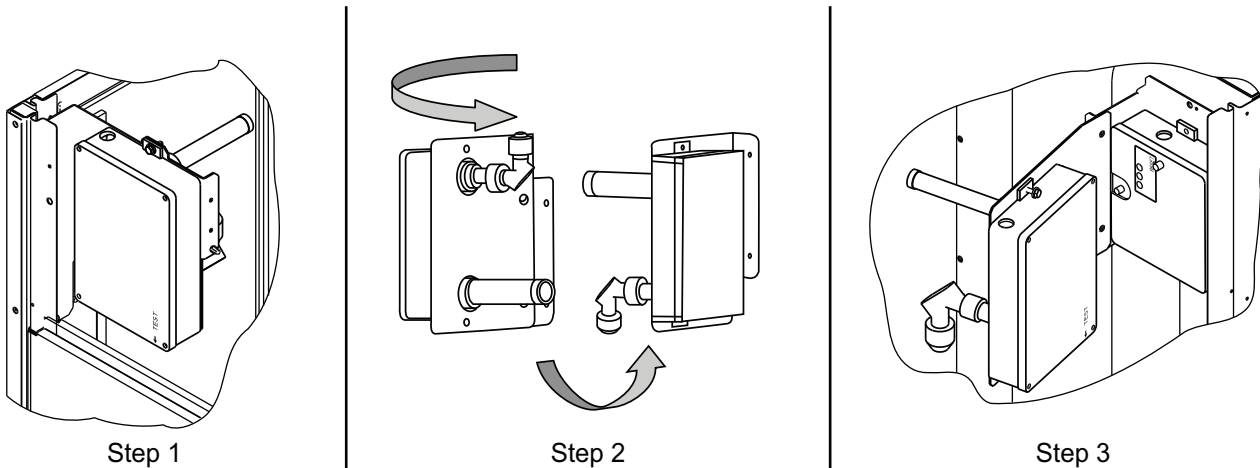

Fig. 62 — Completing Installation of Return Air Smoke Sensor
1. Unscrew the two screws holding the return-air smoke detector assembly. See Fig. 62, Step 1.
3. Turn the assembly 90 degrees and then rotate end to end. Make sure that the elbow fitting is pointing down. See Fig. 62, Step 2.
4. Screw the sensor and detector plate into its operating position using screws from Step 1. See Fig. 62, Step 3.